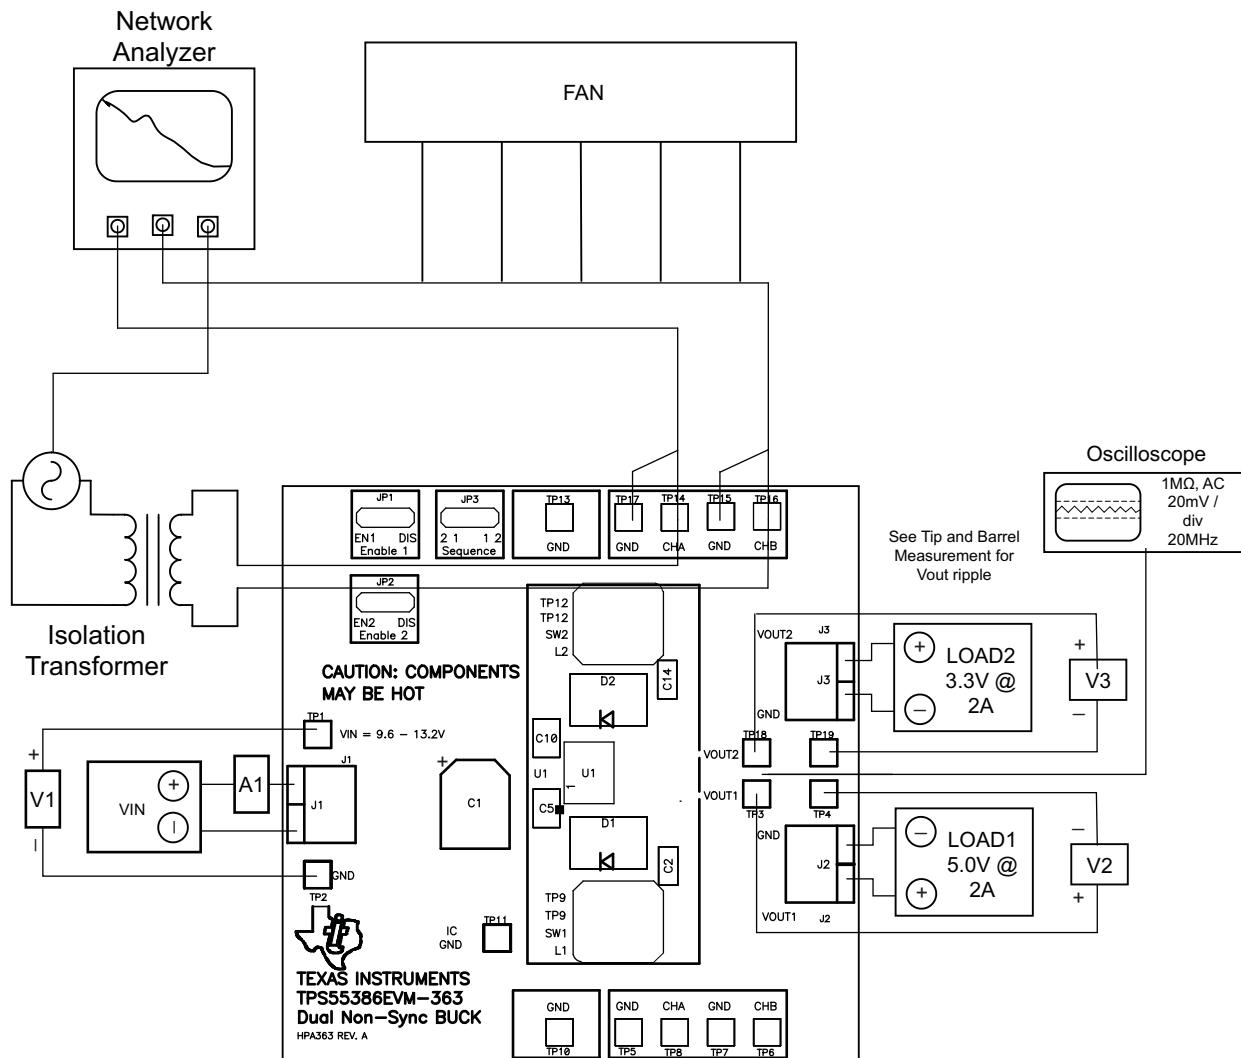

Figure 4. Control Loop Measurement Setup
1. Connect 1kHz–1MHz Isolation Transformer to TP6 and TP8 as shown in Figure 4
2. Connect Input Signal Amplitude Measurement Probe (Channel A) to TP8 as shown in Figure 4
3. Connect Output Signal Amplitude Measurement Probe (Channel B) to TP6 as shown in Figure 4
4. Connect Ground Lead of Channel A and Channel B to TP5 and TP7 as shown in Figure 4